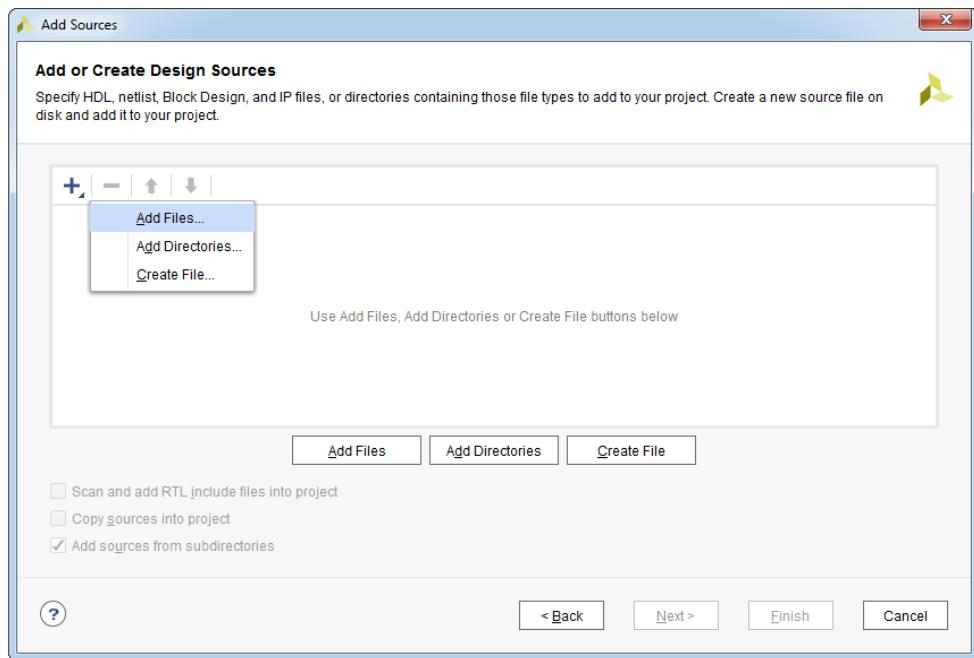

Figure 2.24: Add or Create Design Sources dialog box - Add Files option
11. In the **Add or Create Design Sources** dialog box, click the + icon and select **Add Files...** option to include the existing source files into the project, or just click **Add Files** button, see Figure 2.24.